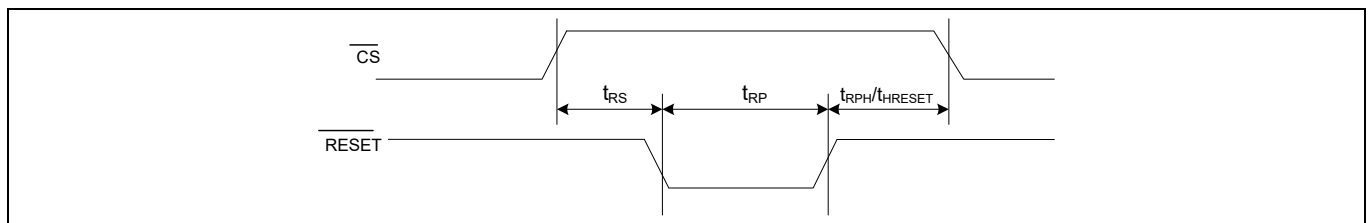
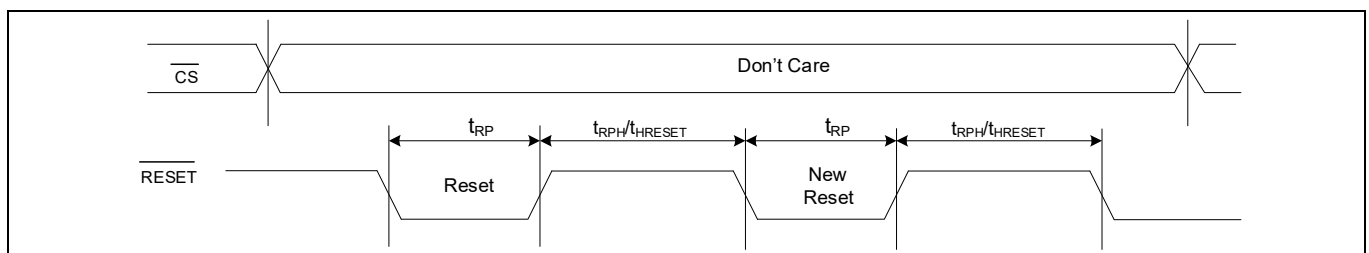

Figure 109 $\overline{\text{RESET}}$ timing - SPI with QUAD set (CR1[1] = 1) or QPI enabled (CR2[6] = 1)
Figure 110 $\overline{\text{RESET}}$ timing - SPI with QUAD clear (CR1[1] = 0) and QPI disabled (CR2[6] = 0)
The hardware reset input ($\overline{\text{RESET}}$) is multiplexed on ($\overline{\text{RESET}} / \text{I/O3}$) and is an active LOW signal in CY15x108QSN device. Refer to **Table 21** for hardware reset ($\overline{\text{RESET}}$) pin configurations across various SPI interfaces. When $\overline{\text{RESET}}$ is pulled LOW, CY15x108QSN self initializes and brings its configuration back to the power up status. Refer to **Table 59** for different registers configuration after $\overline{\text{RESET}}$ cycle. Once $\overline{\text{RESET}}$ is issued, CY15x108QSN takes $t_{\text{RPH}}/t_{\text{HRESET}}$ time from $\overline{\text{RESET}}$ rising edge to complete the reset cycle. CY15x108QSN becomes inaccessible during t_{RPH} time. **Figure 109** and **Figure 110** show the $\overline{\text{RESET}}$ timings in different reset mode.
- The $\overline{\text{RESET}}$ pin is multiplexed on I/O3 in the QPI mode. When using the hardware ($\overline{\text{RESET}}$) in QPI mode, the CR2 [5] bit must be set to '1' to enable to use I/O3 as $\overline{\text{RESET}}$ input when CS is HIGH. **Figure 109** shows the $\overline{\text{RESET}} / \text{I/O3}$ timing in QPI mode.